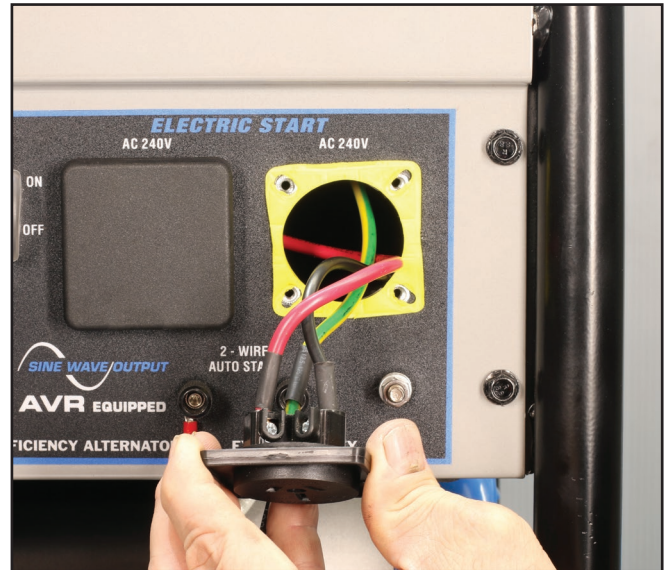

Figure S5 – Withdrawing the 240-Volt AC Socket
- Withdraw the socket from the control panel to give access to the wiring terminal screws on the back of the socket (see Figure S5).